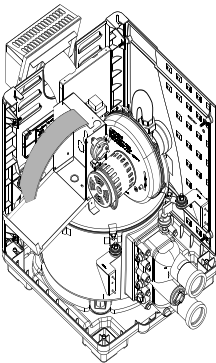

Figure 31.
- 3. Open control box cover (see Figure 31).